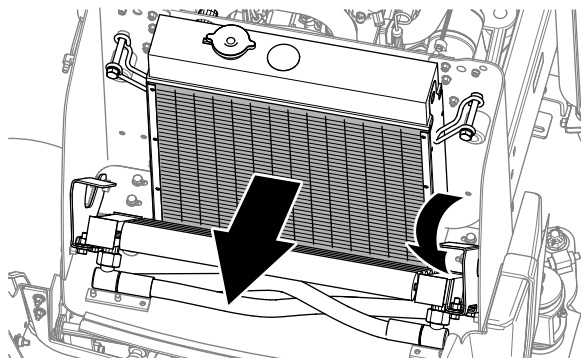

**Figure 80**
6. Clean the oil cooler with low-pressure (50 psi) compressed air (Figure 80).
7. Rotate the oil cooler latches inward, and pivot the oil cooler (Figure 80 and Figure 81).